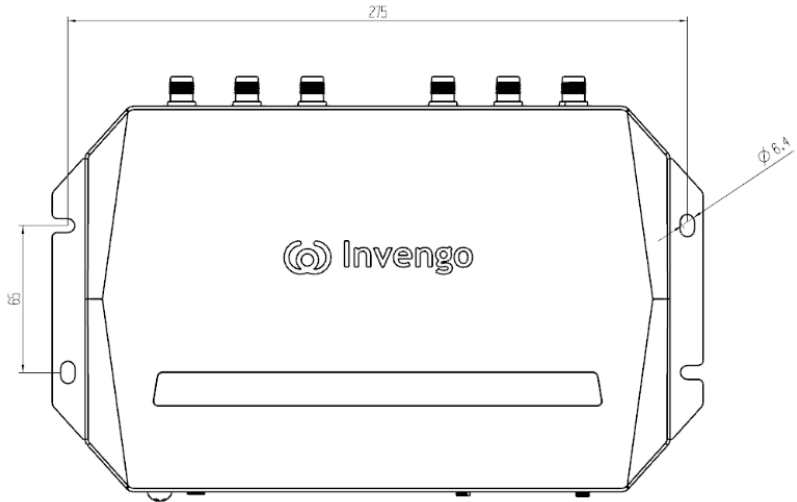

Figure 4.1 Reader Fixing Holes
1) Install the fixing bracket on the reader with M6*8 screws, and then locate the four mounting slots of the reader, as shown in Figure 4.1